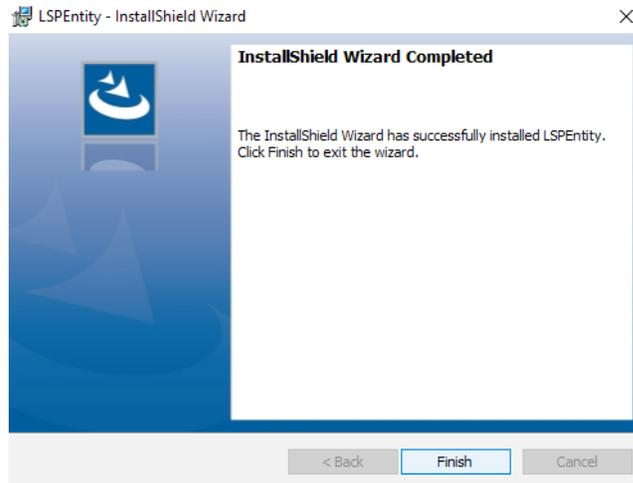

Figure 5
- When the installation is complete, click Finish (Figure 5).